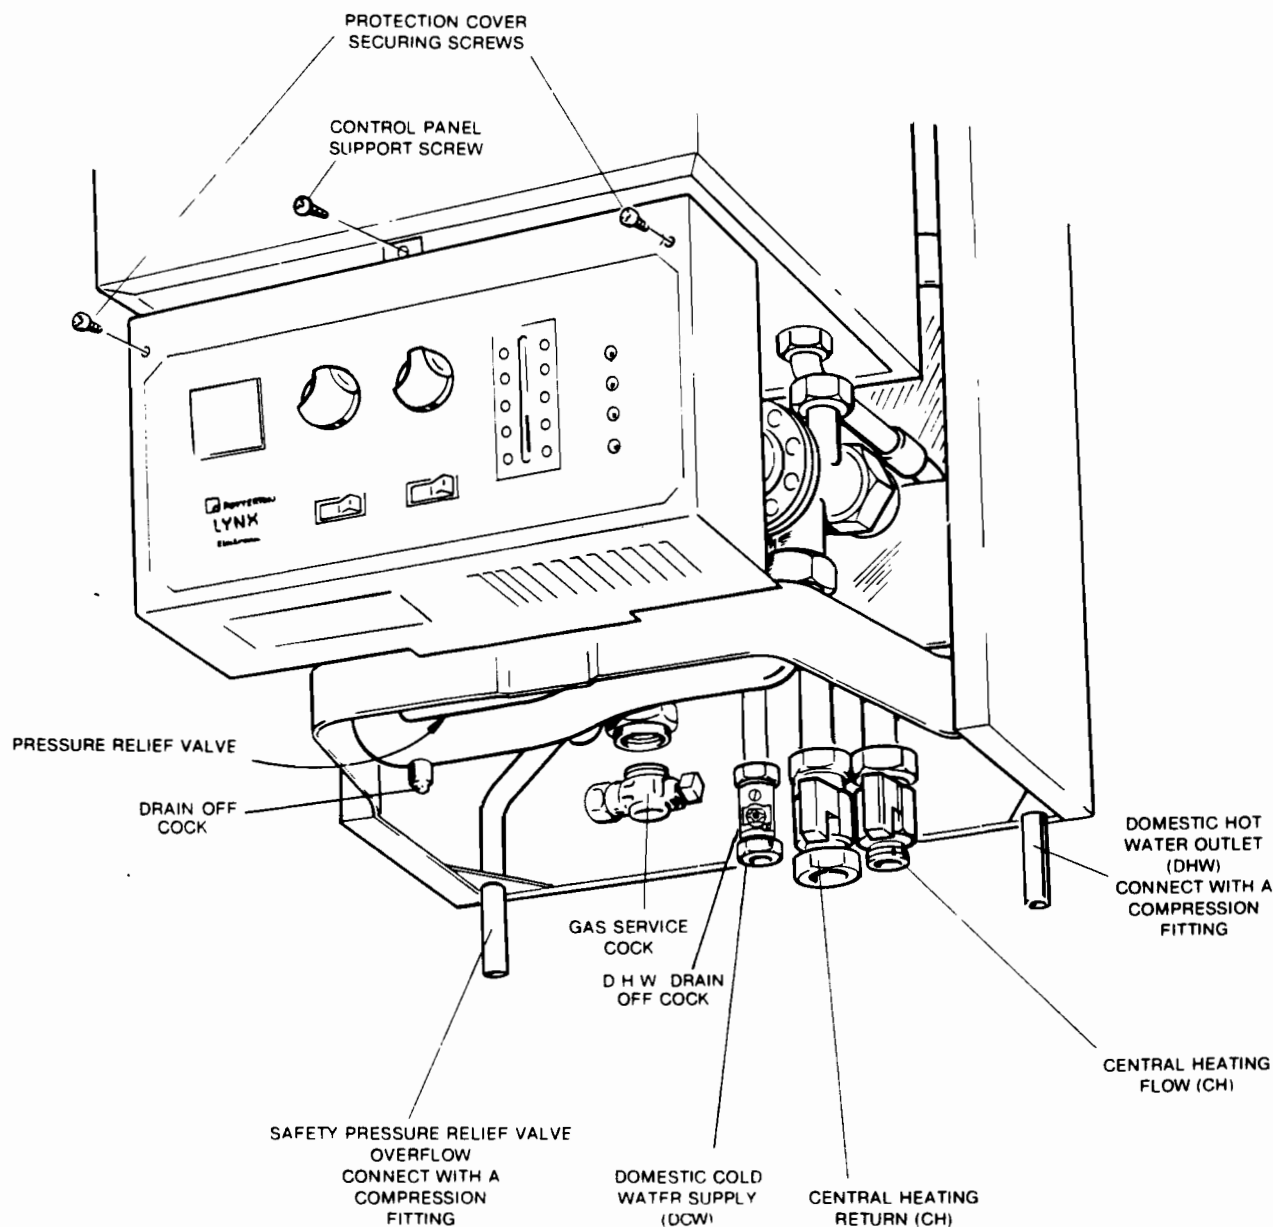

FIG. 25
5. GAS CONNECTION (See Fig. 25)
7. C.H. WATER CONNECTIONS (See Fig. 25)